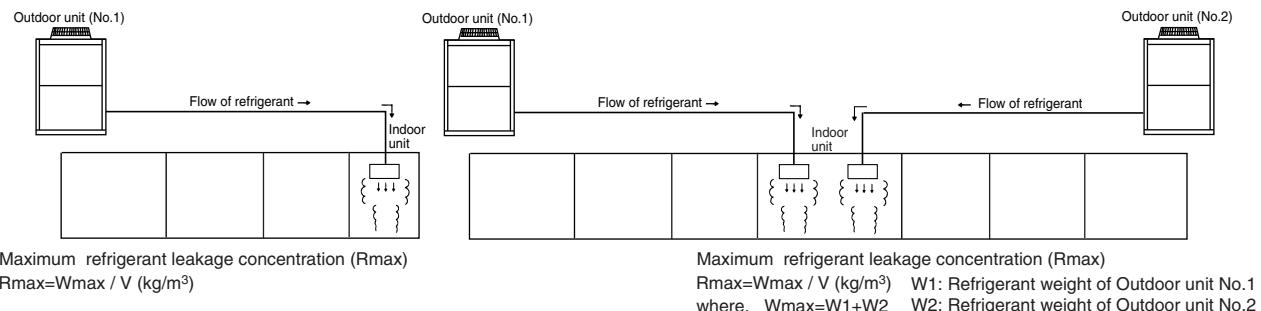

Fig. 6-1 The maximum refrigerant leakage concentration
The maximum refrigerant leakage concentration (R_{max}) is defined as the result of the possible maximum refrigerant weight (W_{max}) leaked into a room divided by its room capacity (V). It is referable to Fig. 6-1. The refrigerant of Outdoor unit here includes its original charge and additional charge at the site.